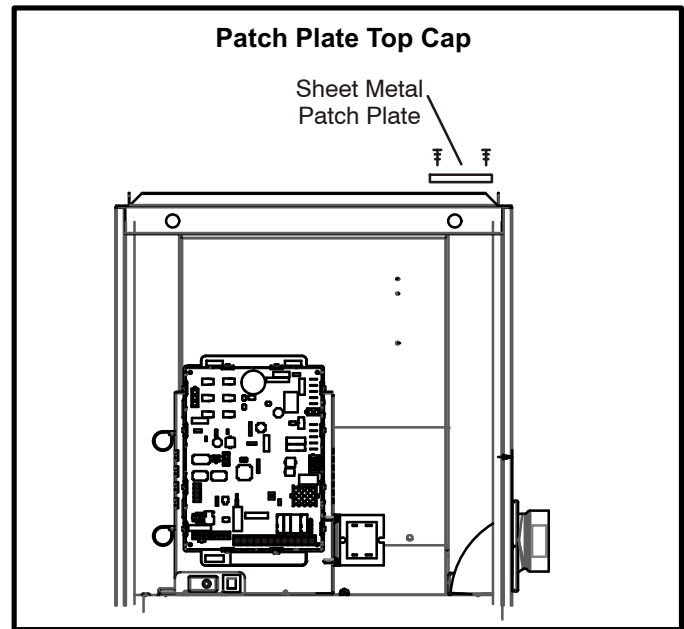

FIGURE 18
- 8 - Re-use the patch plate to cover the hole in the top cap. See figure 18. Remove the 2 screws which secure the top cap to the furnace on the right side and re-install securing the right edge of the patch plate and the right side of the top cap to the furnace. Use 2 self-drilling sheet metal screws (provided) to finish securing the left edge of the patch plate on the left side.